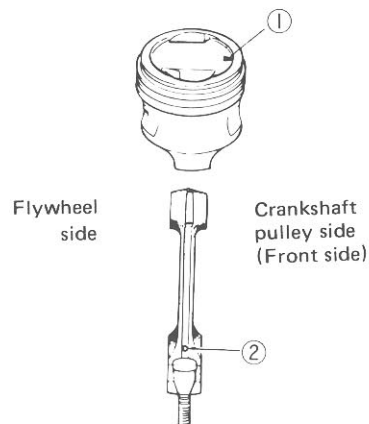

Fig. 3-107
**POSITION OF PISTON RELATIVE TO CONNECTING ROD:** The arrow ① on the crown points to front (pulley) side, and the oil hole ② comes on inlet port side. See Fig. 3-107.